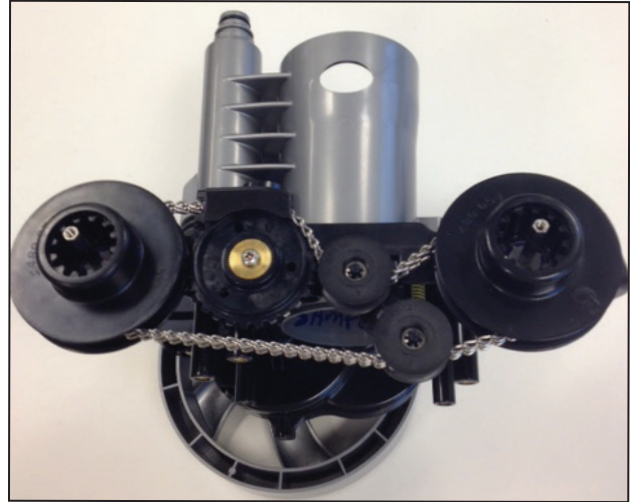

Figure 16. Tune up kit bottom housing removed
- Remove the bottom housing (Figure 16).